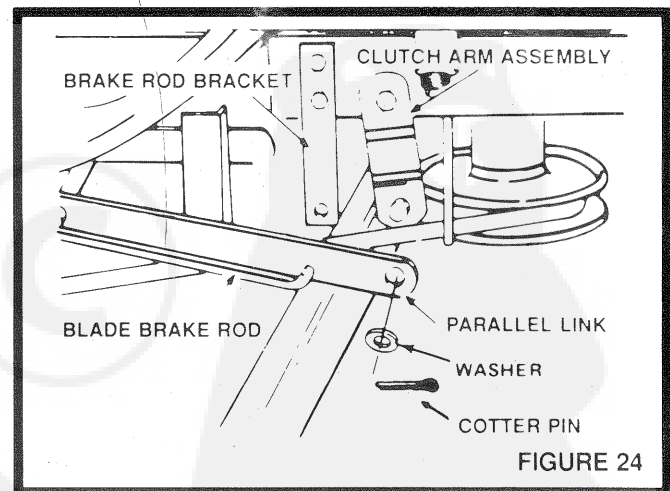

FIGURE 24
2. Remove two Cotter Pins which secure the two Blade Brake Rods to the Brake Rod Brackets and two Cotter Pins securing Parallel Links to the Clutch Arm Assembly (Fig. 24). Save Cotter Pins for reassembly.